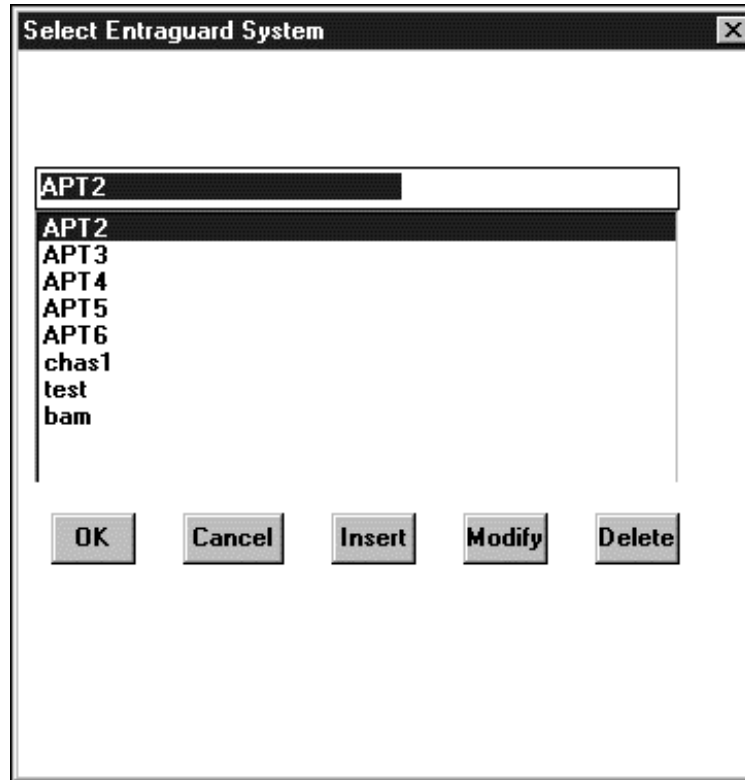

Figure 5.5.1c
g) The following window (Figure 5.5.1c) will then appear: